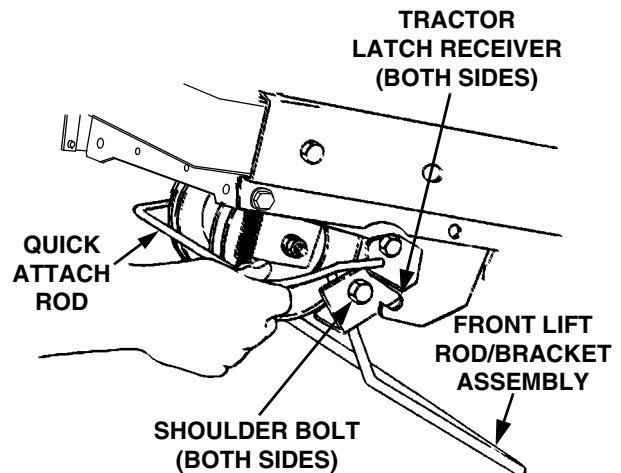

Figure 46
10. From the front of the tractor, push downward and hold the tractor quick-attach rod. Pull the front lift rod/bracket assembly forward to release the shoulder bolts on each side of the bracket from the left and right tractor latch receivers. Release the tractor quick-attach rod (Refer to Figure 46).